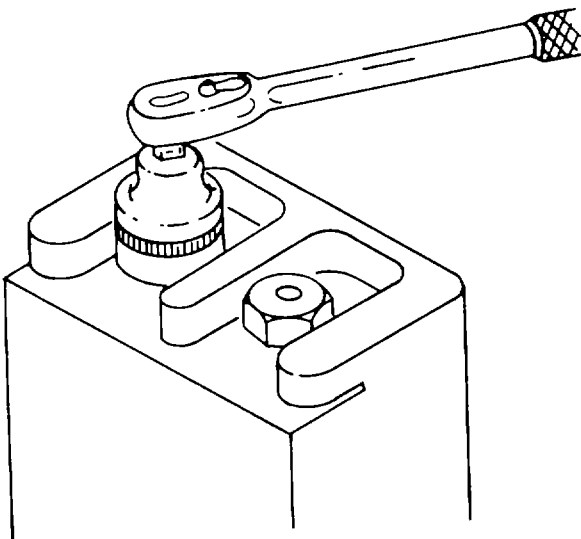

Figure 4-34. Use of Socket Wrench
(3) *Use of socket wrenches.* Where practical, a socket wrench is best of loosening or tightening nuts and bolts. Speed can be attained through the use of ratchets and speed handles. Length of the handle used is very important, as very little pressure is required to strip threads of twist off a small bolt using a long handle. Extension bars and universal joints enable a mechanic to get at nuts or bolts that would otherwise be out of reach or at a difficult angle. Figure 4-34 shows a typical use of a ratchet wrench. The procedure is outlined as follows: